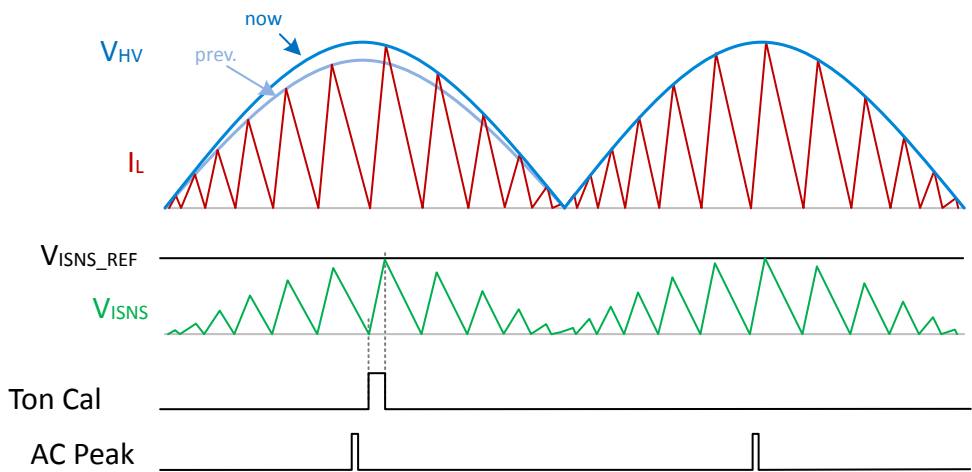

Figure 27.5. T_{ON} Calibration Using AC Peak
- **ACTIVE** - The AC Peak detector logic is used to trigger a calibration near the AC voltage peak on the active channel. This is shown below in Figure 27.5 \$t_{ON}\$ Calibration Using AC Peak on page 995.